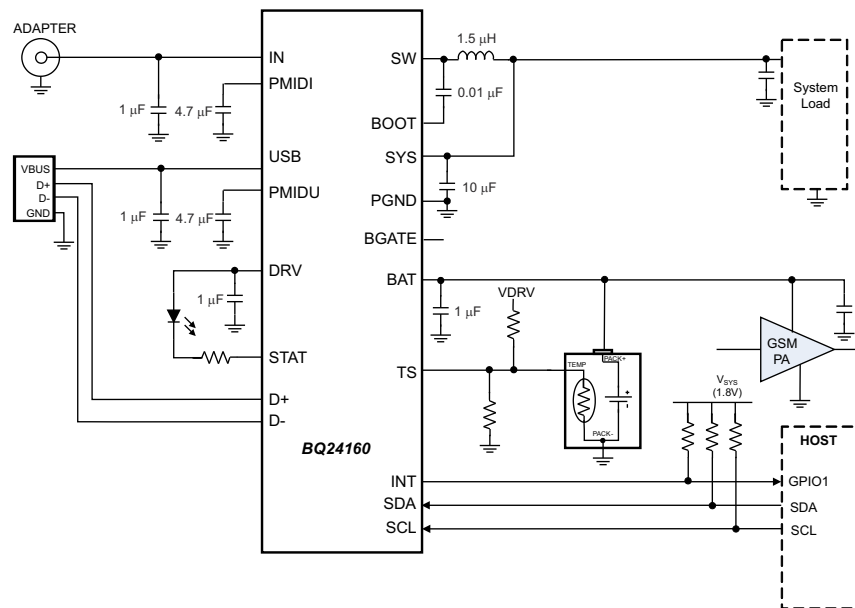
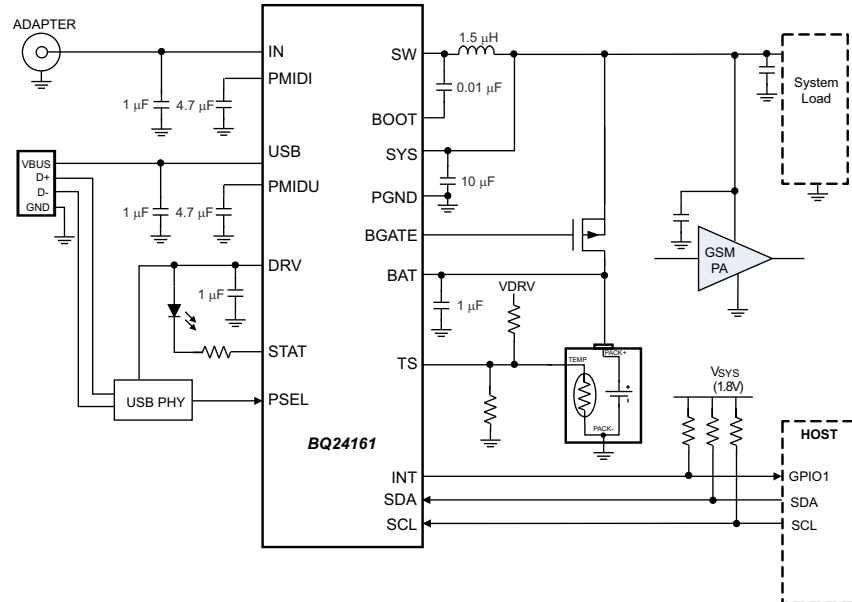

Figure 9-1. BQ24160, Shown with no External Discharge FET, PA Connected to Battery
Figure 9-2. BQ24161, Shown with External Discharge FET, PA Connected to System for GSM Call Support with a Deeply Discharged or No Battery
A typical application circuit using the BQ24160 with a smartphone's GSM power amplifier (PA) powered directly from the battery is shown in Figure 9-1. A typical application circuit using the BQ24161 with a smartphone's GSM PA powered from the SYS rail, to allow for calls even with a deeply discharged battery, is shown in Figure 9-2. Each circuit shows the minimum capacitance requirements for each pin and typical recommended inductance value of 1.5 μH . The TS resistor divider for configuring the TS function for the battery's specific thermistor can be computed from equations Equation 1 and Equation 2. The resistor on STAT is sized per the LED current requirements. All other configuration settings for VINDPMP, input current limit, charge current and charge voltage are made in EEPROM registers using I²C commands. Options for sizing the inductor outside the 1.5 μH recommended value and additional SYS pin capacitance are explained in the next section.